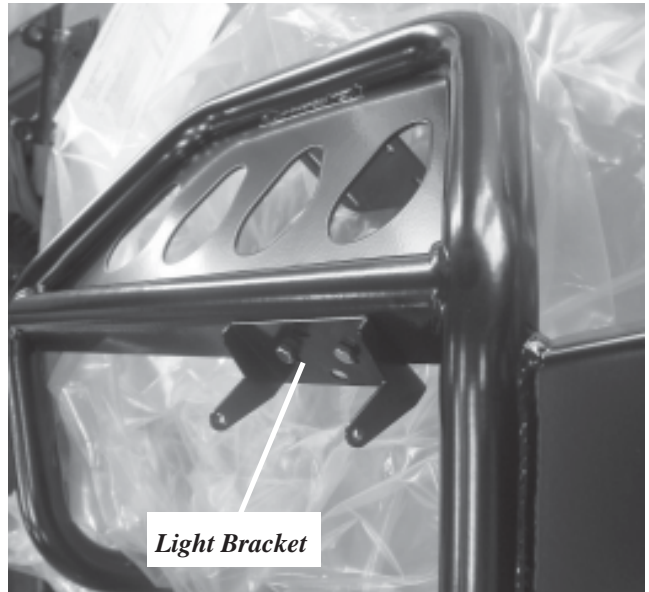

Figure 5
7. This bumper is equipped with holes for mounting accessory trail lights, Figure 5. The trail light brackets can be mounted to the bottom of the center section of the bumper.